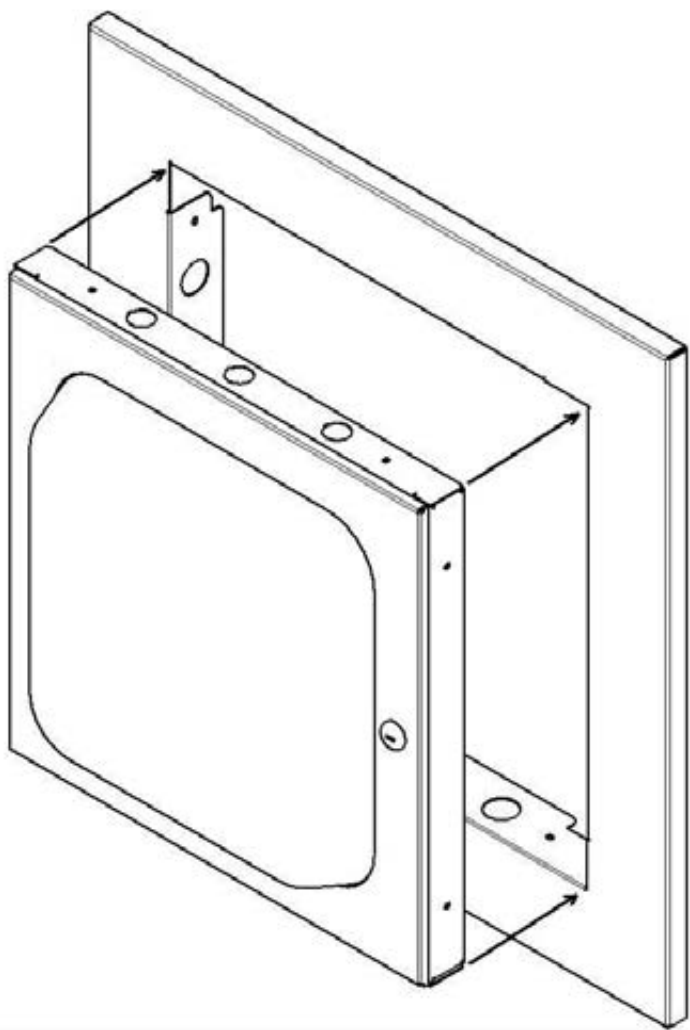

Figure 3 - Installation of Model 1030-00 enclosure into 1030-FLANGE
Step 9 – To attach the optional flange, place the Model 1030-00 enclosure into the opening as shown in figure 3. Slide the 1030-00 enclosure into the flange until the screw holes located on the side of the enclosure align with the oblong holes located on the edge of the flange. The front surface of the enclosure door should align with the front surface of the flange with the dome protruding its full height.